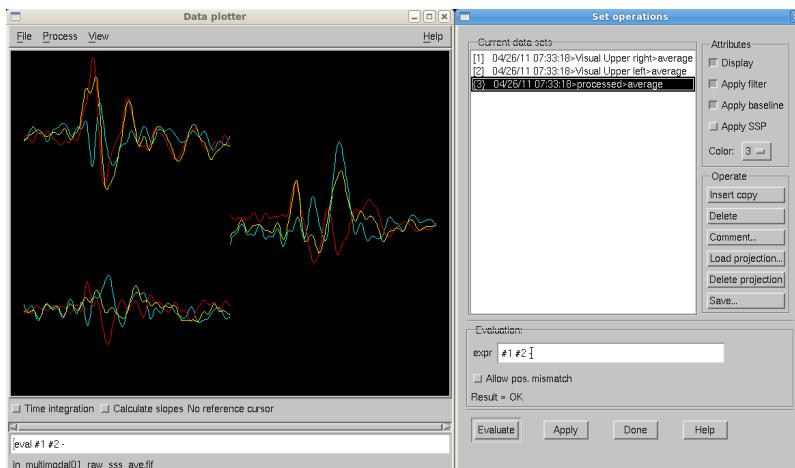

Figure 24: *Xplotter* Set operations.
- To see a list of loaded data sets and controls for changing their display, filters, baseline and SSP status (Figure 24).
- For computing the difference between the sets, use the expression “ **#1 #2 –** ” and select **Evaluate**. A third trace (blue) showing the difference of the two original ones should now appear on the main Plotter window (Figure 24).